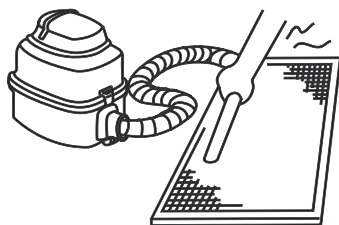

Fig.6-2
- a.The air-in side should face up when using vacuum cleaner. (Refer to Fig.6-2)